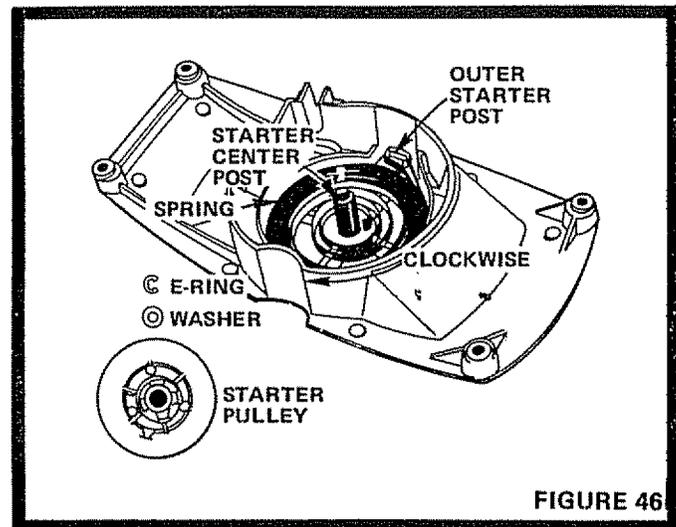

FIGURE 46
3. Remove E-Ring and Washer from Starter Center Post (Fig. 46).
5. Install new Spring (Fig. 46) with loop in end of Spring over Outer Starter Post. The Spring will wind clockwise toward the center.